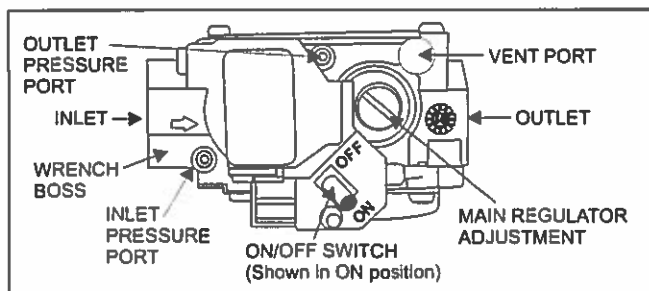

FIGURE 2: Single Stage Gas Valve
1. Refer to Figure 2 for location of pressure regulator adjustment cap and adjustment screws on main gas valve.